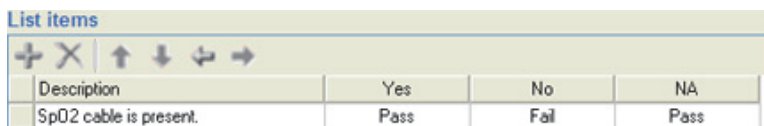

Figure 3-32. Three Checklist Options with Custom Names
- Repeat the previous step for all other columns (options) that need to have the name changed. Figure 3-32 shows the option names changed to Yes, No, and NA.